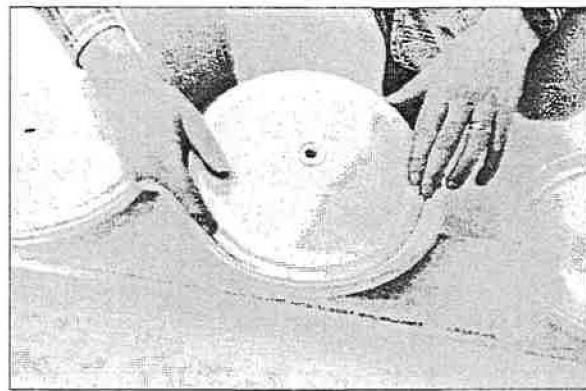

Figure 35
1. Set the diffuser PVC subplate in the diffuser holder with the flat side up. See Figure 35.